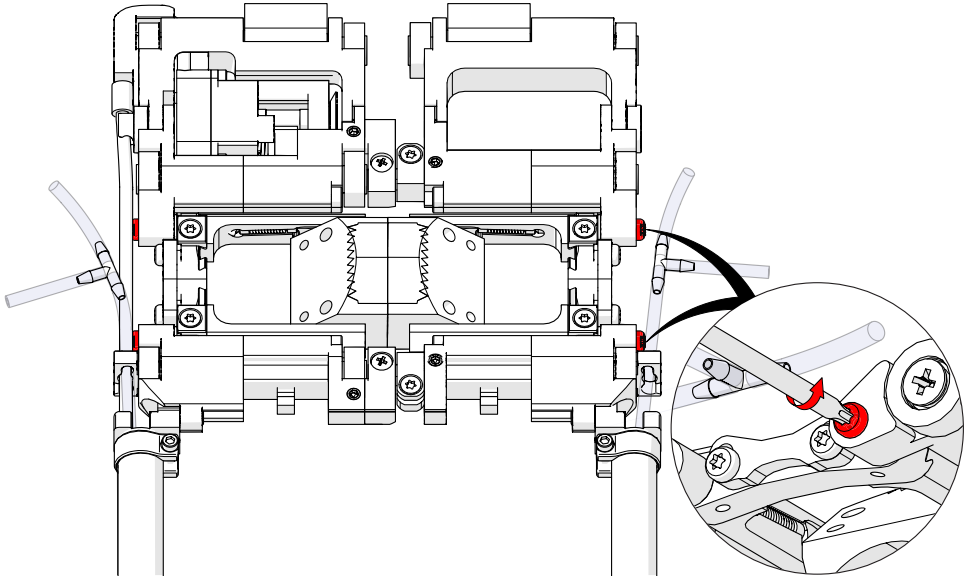

Fig. 69 - Loosen the pivot adjustment screws
3. Use the supplied Torx® driver (Fig. 22), loosen the four pivot adjustment screws (Fig. 69) and press the scanner against a flat surface straightening out the scanner.
3. Use the supplied Torx® driver (Fig. 22) to loosen the four pivot adjustment screws (Fig. 69), press the scanner against a flat surface to straighten.